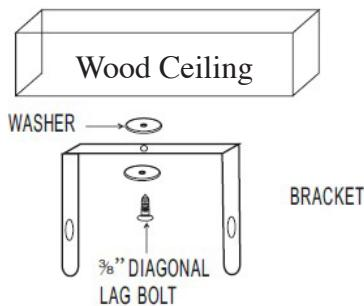

Figure 4a-single-Screw Mounting
Refer to Figures 4a and 4b.
NOTE: If you want to swivel the heater either to the right or left adding a washer to both sides of the bracket is recommended. A longer lag bolt may be required to properly secure the unit. See Figure 4a.
1. To turn the unit when it has been installed with a single lag bolt (as shown in Figure 4a), simply turn the entire heater as needed. The unit cannot be turned horizontally if it has been installed with 2 lag bolts.
1. To turn the unit when it has been installed with a single lag bolt (as shown in figure 4a), simply turn the entire heater as needed. The unit cannot be turned horizontally if it has been installed with 2 lag bolts.